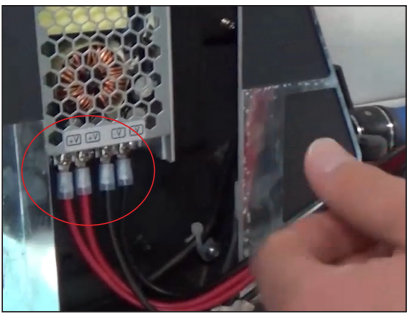

Figure 26: Disconnect Cables from Power Supply
- Use a Phillips screwdriver to loosen the connections on the power supply and disconnect the cables extending from the board. Refer to **Figure 26**.